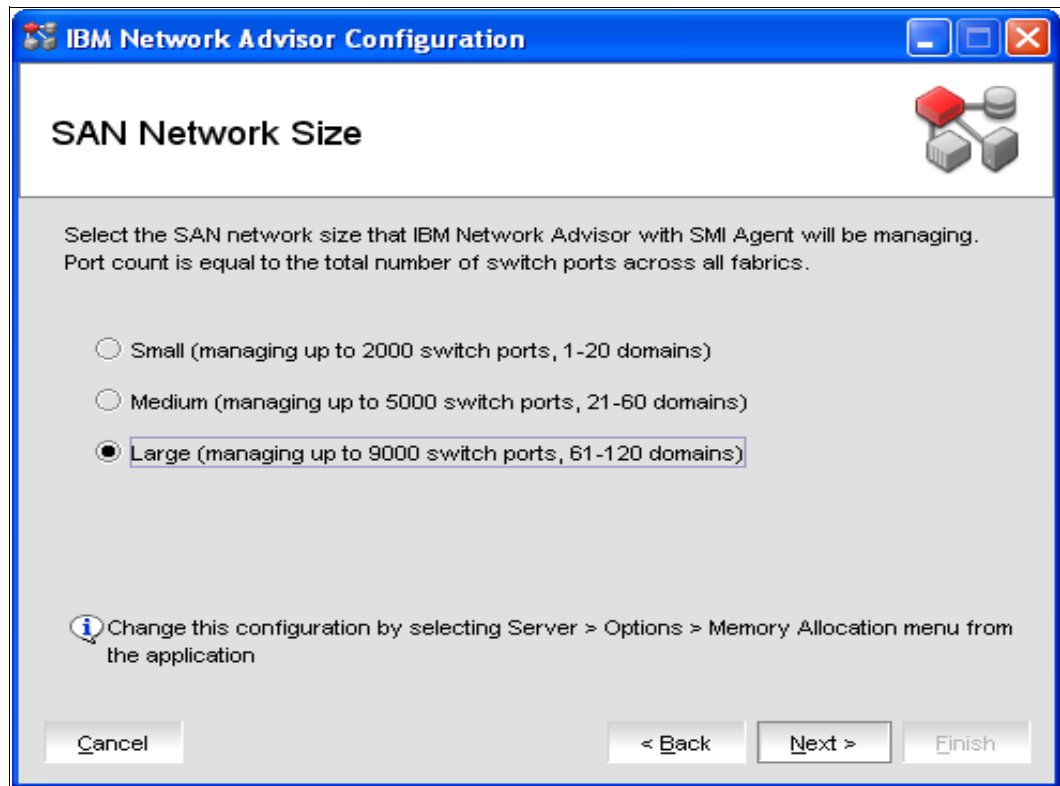

Figure 8-13 Select SAN size
13. Click **Next**, and select the size of your FICON/SAN installation, which is managed by the IBM Network Advisor server, as shown in Figure 8-13 on page 257.